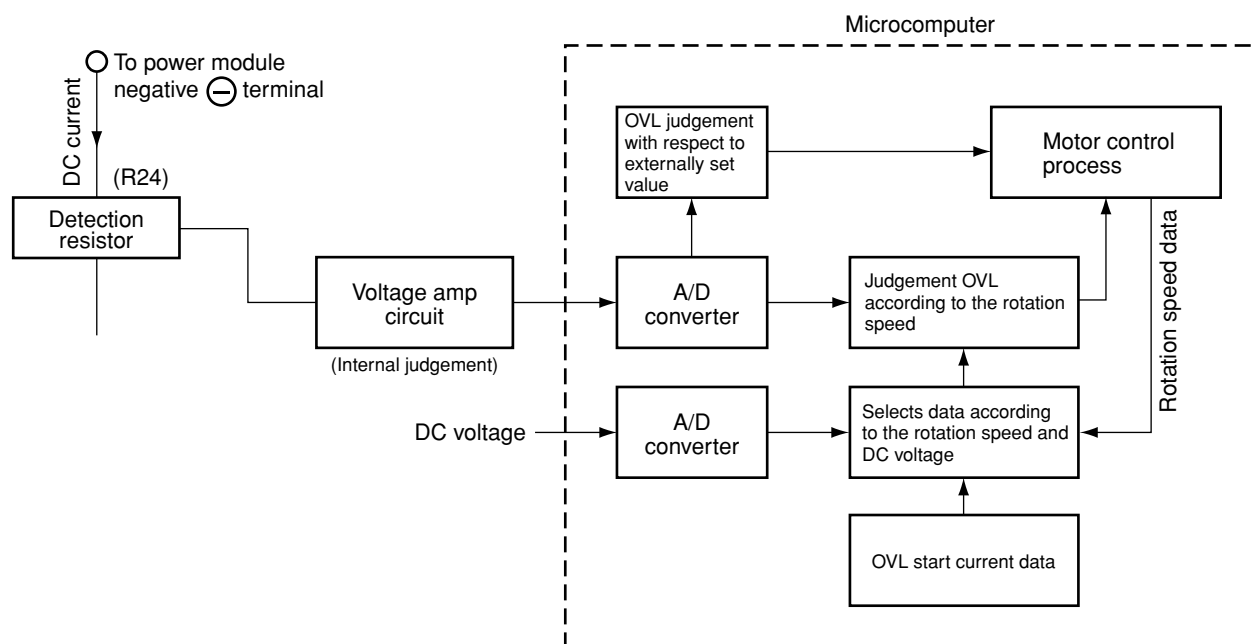
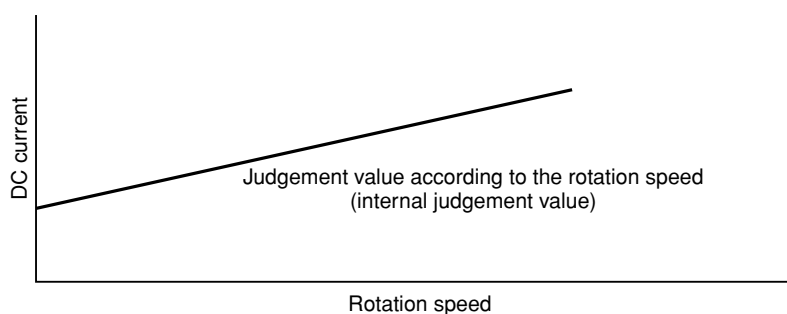

Fig. 8-4 Overload Control System Configuration
Fig. 8-5
- As shown in diagram, if current exceeding 21A (27A for RAC-50NH5) flows, voltage at point A recognized by detecting resistor is input to pin ⑩ of SPM2 – HIC, and voltage divided by R41 and R43 is input to pin ⑨ of IC1. Since threshold of IC1 is exceeded in this case, Lo signal is input from pin ⑧ (Voltage at point B). When Lo signal is input to pin ⑰ of microcomputer, microcomputer stops drive output.
(2) Overload control circuit (OVL control circuit)
- Fig. 8-4 shows the overload control system configuration and Fig. 8-5 is a characteristic diagram of overload judgement values. There are two judgement methods-external judgement which compares the externally set value with the DC current value regardless of the rotation speed and internal judgement which compares the set value that varies according to the rotation speed programmed in the microcomputer software with the DC current value.